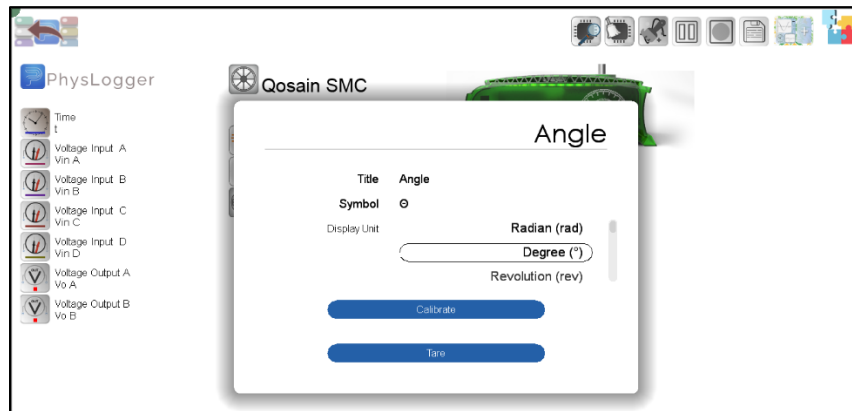

Figure 5: PhysCompass can be calibrated and tared anytime by clicking on its icon in the Quantities Panel.
- b. Go to Quantities Panel > PhysCompass > Calibrate. Swing the pendulum. Refer to Figure 4 and Figure 5.
15. When the pendulum is at its stationery mean position, tare PhysCompass readings. This can be done by pressing and holding (for at least 3 seconds) the hardware Tare button on PhysCompass or using the software Tare control, as shown in Figure 5. The angular displacement θ readings are zeroed once PhysCompass has been tared.